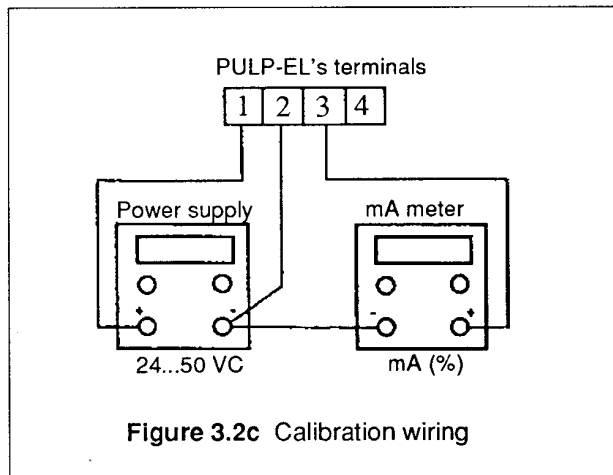

Figure 3.2c Calibration wiring
- Connect the PULP-EL for calibration as shown in Fig. 3.2c.